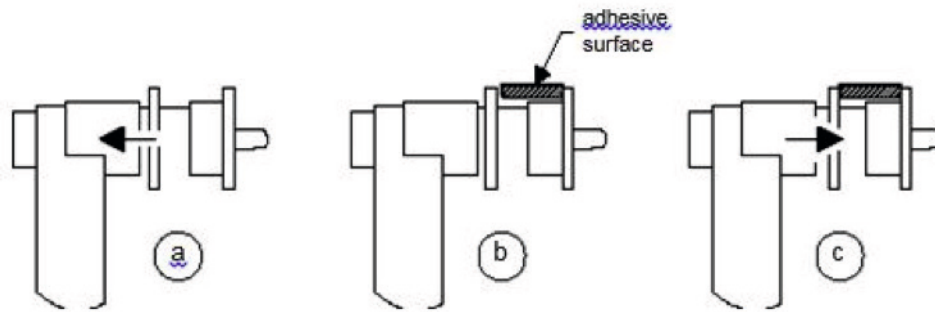

Figure F3.12. Application of adhesive weights on the Distance/Diameter
2. Apply the weight shown on the left display (internal weight) on the Distance/Diameter sensor as seen in figure F3.12.